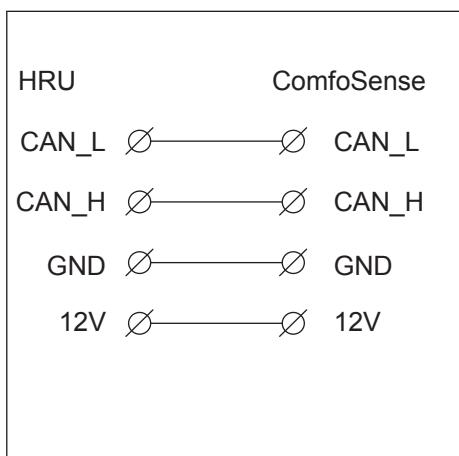

Abb. 5
2. Fasten the wall frame A with the screws (F) on the wall, wall-mounting casing (I) or mounting plate (E).
3. Put the communication cable through the wanted design frame X and resize window (D).
4. Plug in the communication cable (fig 5), to connect the ventilation unit and the device.
- 6. Attach the device (B) (with the design frame X and the resize window D) with the screws E to the frame A.